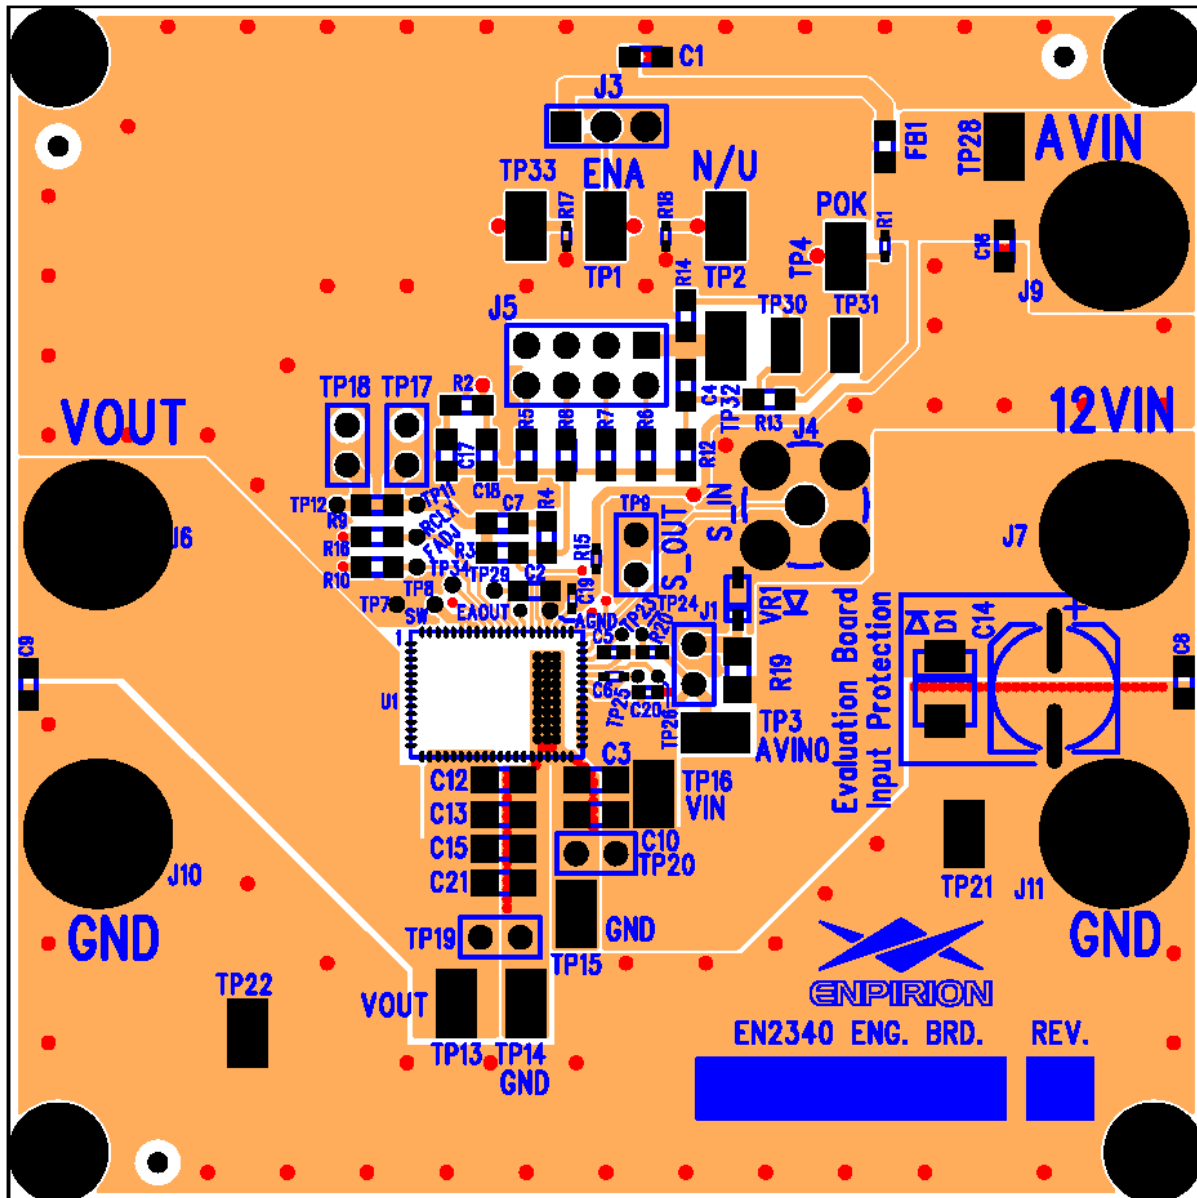

Figure 4: Evaluation Board Top and Assembly Layers.
STEP 2: Connect the 12V nominal Power Supply to the input power connectors, 12VIN (J7) and GND (J11) as indicated in Figure 4 and set the supply to the desired voltage.
STEP 4: Connect the load to the output connectors VOUT (J6) and GND (J10), as indicated in Figure 4.
Please note: The loop compensation circuit for this version of evaluation board has been chosen for a wide range of PVIN and VOUT values. In order to optimize the loop for any specific PVIN/VOUT operating point, please see the compensation table in the datasheet. See Figures 4 and 5.